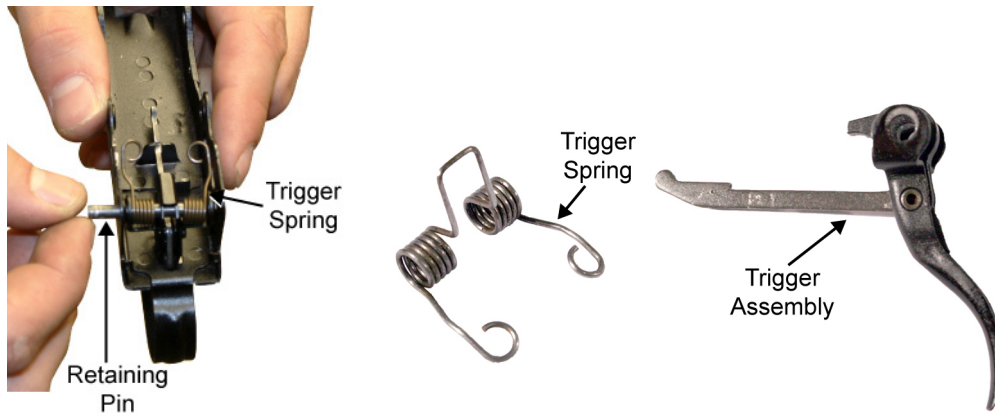

Figure 8. Removing the Retaining Pin, Trigger Spring, and Trigger Assembly.
8. Remove the rear retaining pin, which is installed through the trigger spring and trigger assembly. Remove the trigger spring and trigger assembly. Refer to Figure 8.